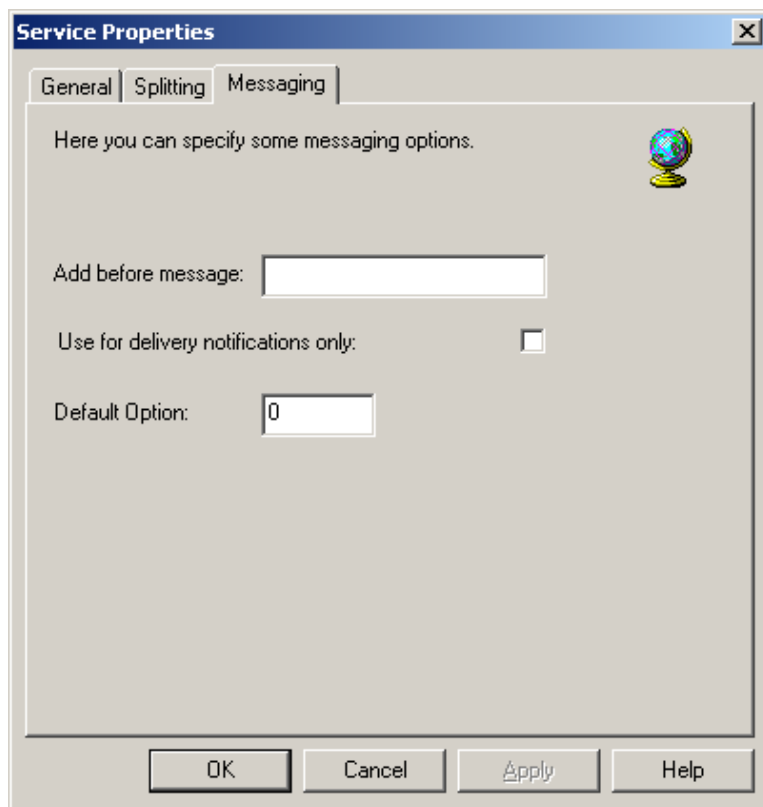

Figure 90. Service Properties Dialog - Messaging Tab
23. Select the **Messaging** tab to produce the view shown in Figure 90. Verify that all fields are empty or 0 and click **OK** to return to the **Services** tab of the Settings dialog.